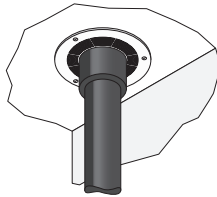

Fig. 3
1. Frame a four sided level square opening within the joists using timber stringers where necessary to allow for the correct distance to combustibles from the outer wall of the chimney. This distance must be a minimum of 50mm on Gas and Oil applications and 60mm for solid fuel applications (see Fig. 3 below - distance x).